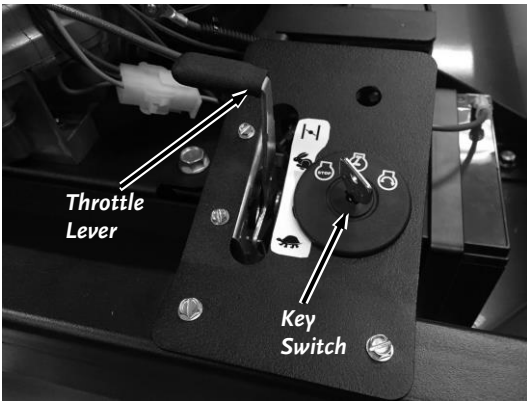

Figure 15
2. When starting a cold Engine, push the Throttle Control Lever up to the Choke  position (**Figure 15**). When starting an already warm Engine, push the Throttle Control Lever to the Run  position.
2. Move the Throttle Control Lever all the way down to the Idle  position and turn the Key to Stop  (**Figure 15**).